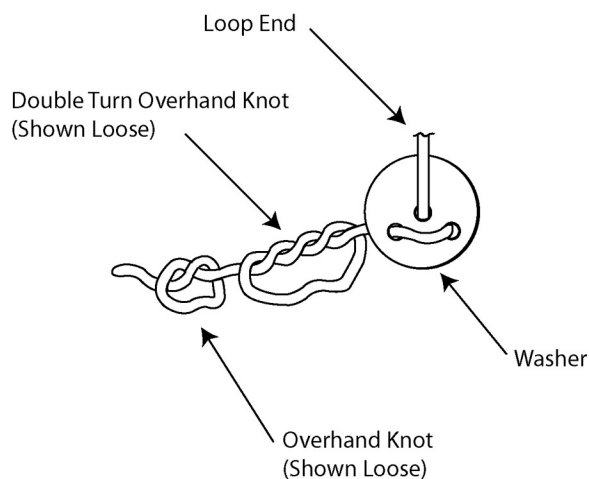

Figure 5. Routing and Tying of Closing Loops
a. Route closing loop per illustration (Figure 5).
c. On the back side, form the double overhand knot (Figure 5).
e. Form an overhand knot behind the double overhand knot (Figure 5).
- a. Route closing loop per illustration (Figure 5).
- c. On the back side, form the double overhand knot (Figure 5).
- e. Form an overhand knot behind the double overhand knot (Figure 5).
- c. Packer shall complete and sign Parachute Record (OPNAV 4790/101). (QA)